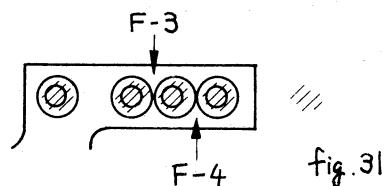

fig. 31
8. Soldering bridge over F-4 and F-3 on #312 of #1001. See Figure 31.